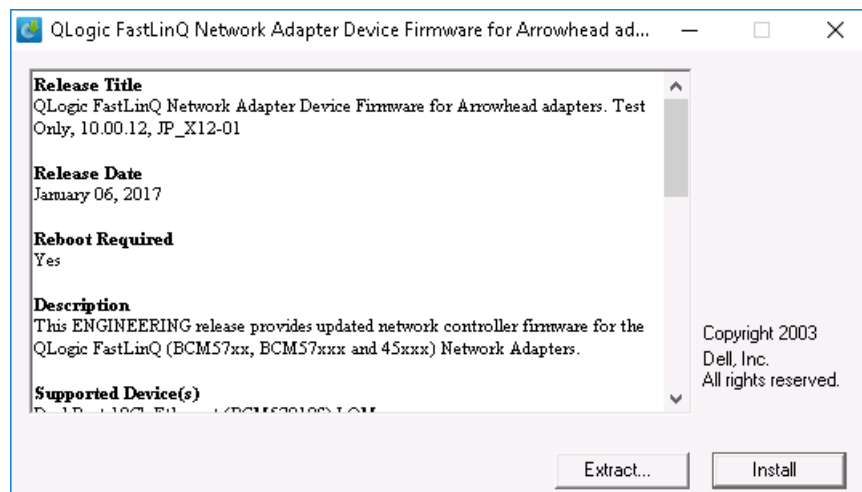

Figure 4-1. Dell Update Package: Splash Screen
2. The Dell Update Package splash screen appears, as shown in Figure 4-1. Click **Install** to continue.